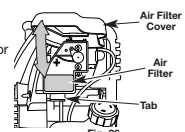

Fig. 26
1. Open the air filter cover. Push the tab on the under side of the cover inward. Then pull the air filter cover out and up. (Fig. 26).
2. Remove the air filter (Fig. 26).
7. Reinstall the air filter cover. Position the slots on the top of the air filter cover onto the tabs at the top of the back plate (Fig. 26).